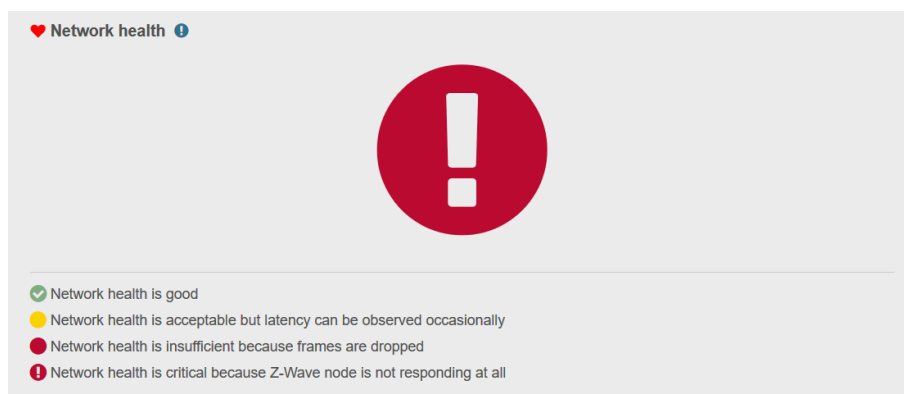

Figure 4.6: Network Health
- Network health (Figure: 4.6)